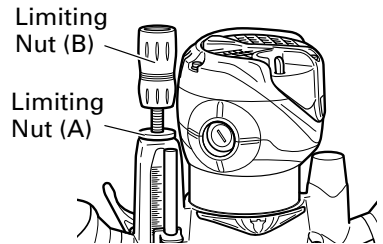

Fig. 6
- Upper limiting nuts (Fig. 6)